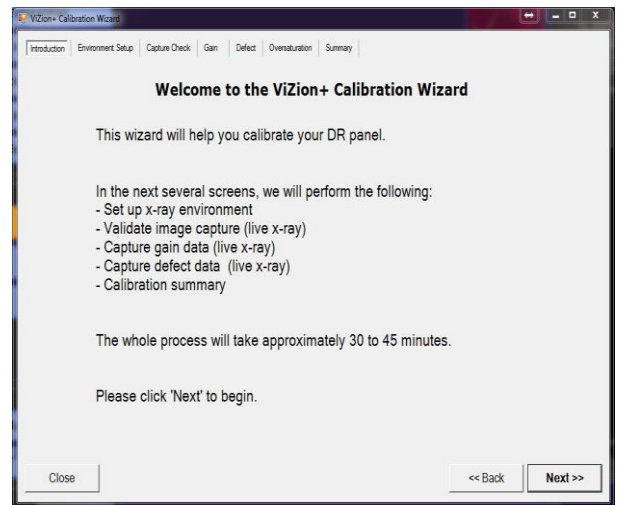

Figure 9
8. The “Welcome to the ViZion DR + Calibration Wizard” window appears, read and complete each tab, selecting **Next** to proceed. **Figure 9**